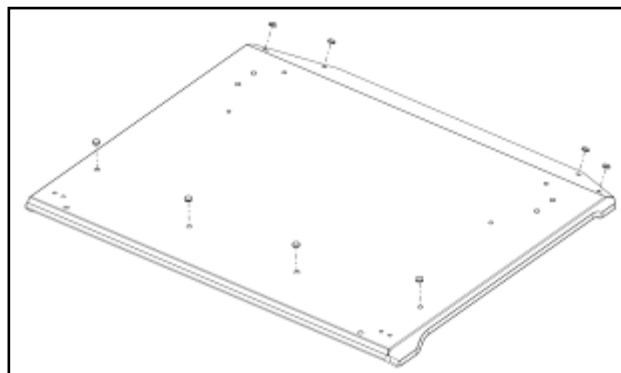

Fig. 15.1 (Roof Preparation)
- 15.1** Prep the roof for installation by removing the (4) rubber plugs along the front of the roof and the (4) rubber plugs at the rear of the roof as shown in Figure 15.1.